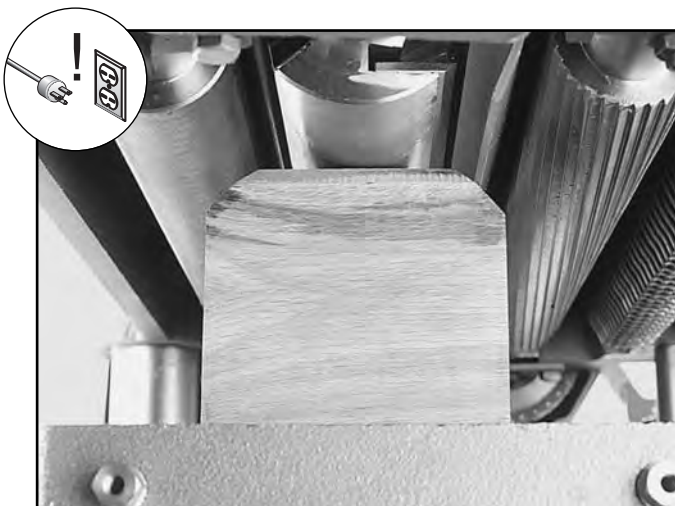

Figure 28. Setting the outfeed table height.
3. Turn the handwheel to raise the table until the block barely touches the cutterhead body. **The block should not be touching the knives.** See Figure 28.